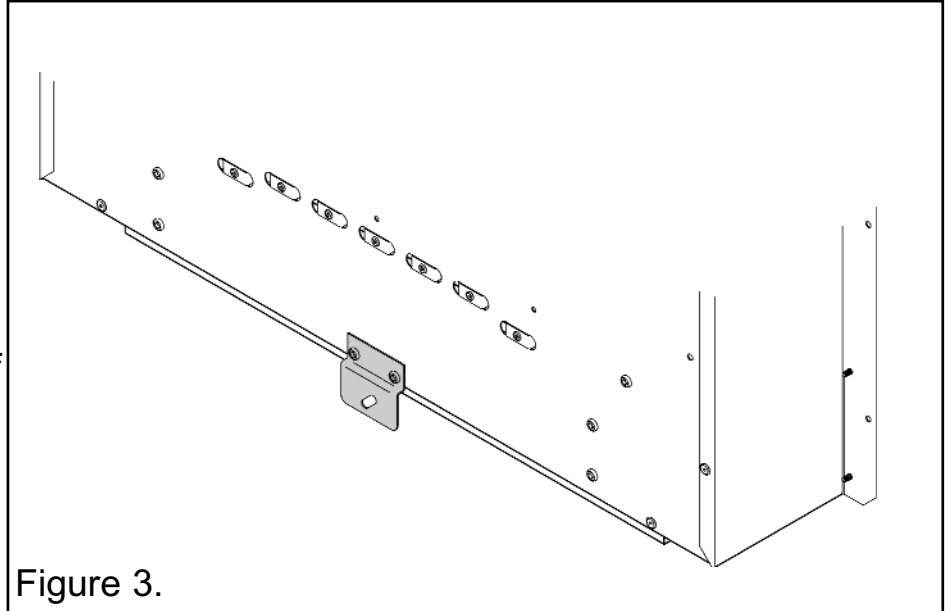

Figure 3.
1. There is a lower support bracket supplied with the heater. Secure this to the rear base of the heater with the two screws supplied (See figure 3).